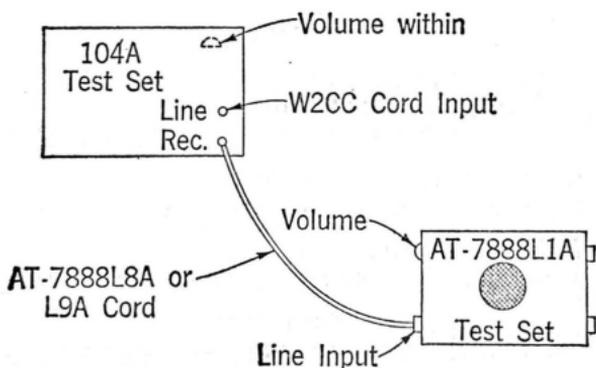

Fig. 4
4.03 **104A Test Set:** In this application the speaker set is used as a substitute for a receiver. The set should be connected to the 104A Set using the cord shown in Fig. 4. The volume of the speaker set should be adjusted to maximum clockwise position. The volume of the 104A Set should then be adjusted for the desired signal volume.